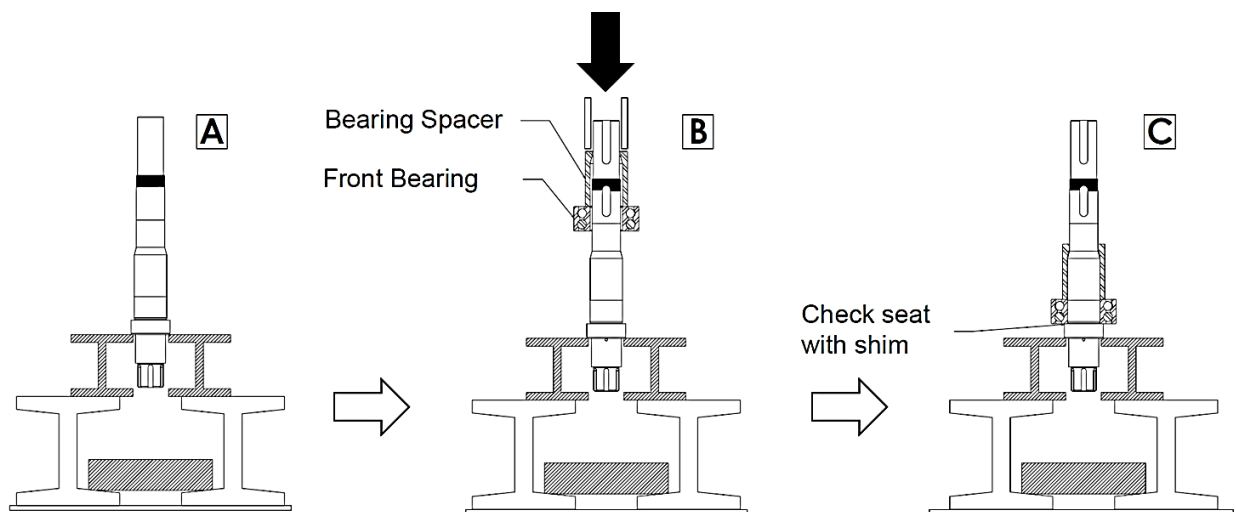

Figure 49: Pressing Front Bearing onto Shaft
1) Clean all reusable parts prior to reassembly. Apply a light coat of lubricant on the shaft area where the front bearing will sit. Position the shaft upright in the press with the rotor end facing down (Figure 49, A). Open the new front bearings and place it over the shaft along with the bearing spacer (Figure 49, B). Make sure the bearing and spacer are aligned before pressing them on. Using a sleeve that rests on the bearing spacer and rides over the shaft, press the bearing on until it seats against the shaft shoulder. A shim can be used to ensure that the bearing is fully rested on the shaft shoulder (Figure 49, C).